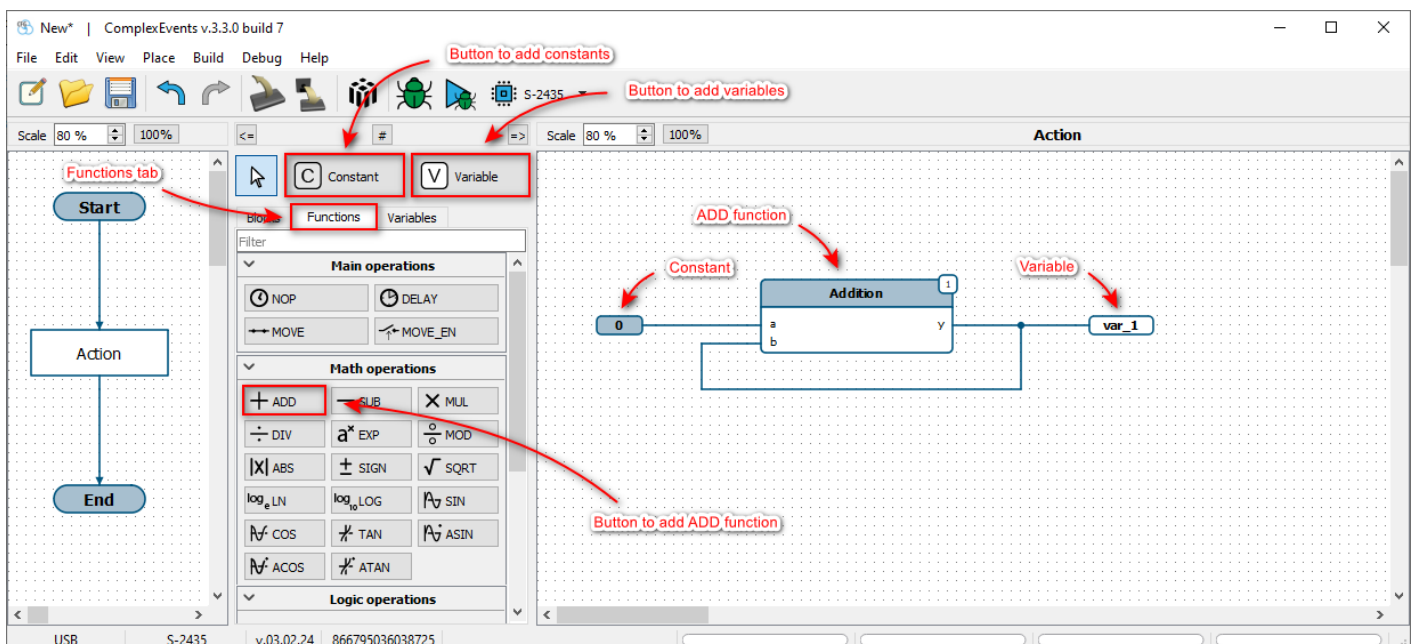

Figure 2.4 – Scheme of incrementing the variable var_1 by 1
13. Place the added elements (Figure 2.4) and connect them. For connection of two pins, you should click with the left mouse button on the first pin, then click on the second pin.